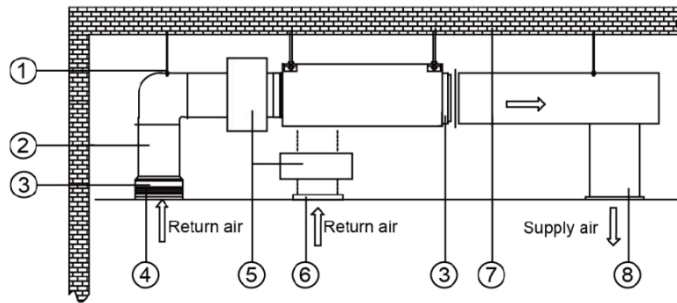

Fig20
- Installation of the Rectangular Duct (Fig20)